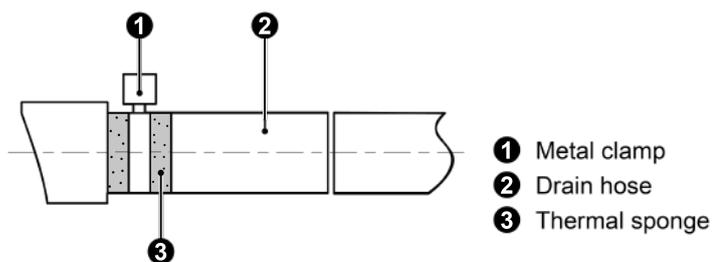
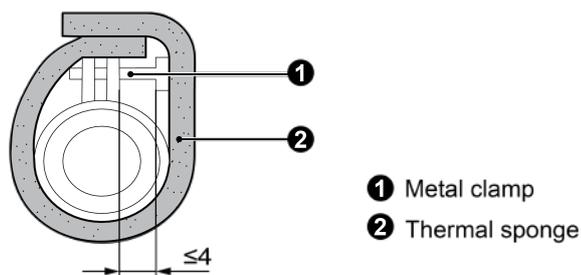

Fig.4.3.2
Fig.4.3.3
- (1) Insert the drain hose into the drain hole and tighten it with tapes, as shown in Fig.4.3.2. Model with water pump will be provided with drain hose, while other models please prepare the drain hose by yourself.
- (2) Tighten the pipe clamp, with the distance between screw nut and hose smaller than 4mm.
- (3) Use sealing plate to make the pipe clamp and hose insulated, as shown in Fig.4.3.3.